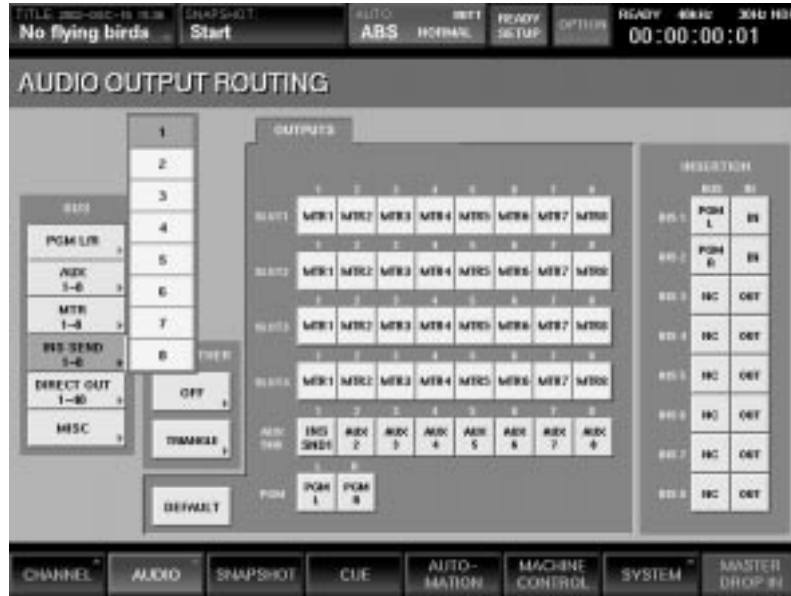

Figure 26
- From the INS SEND 1-8 Bus drop-down menu, press 1, then press AUX SEND 1 in the Outputs section (center of the screen). INS SND1 will be selected for Aux Send 1. (See Figure 26)